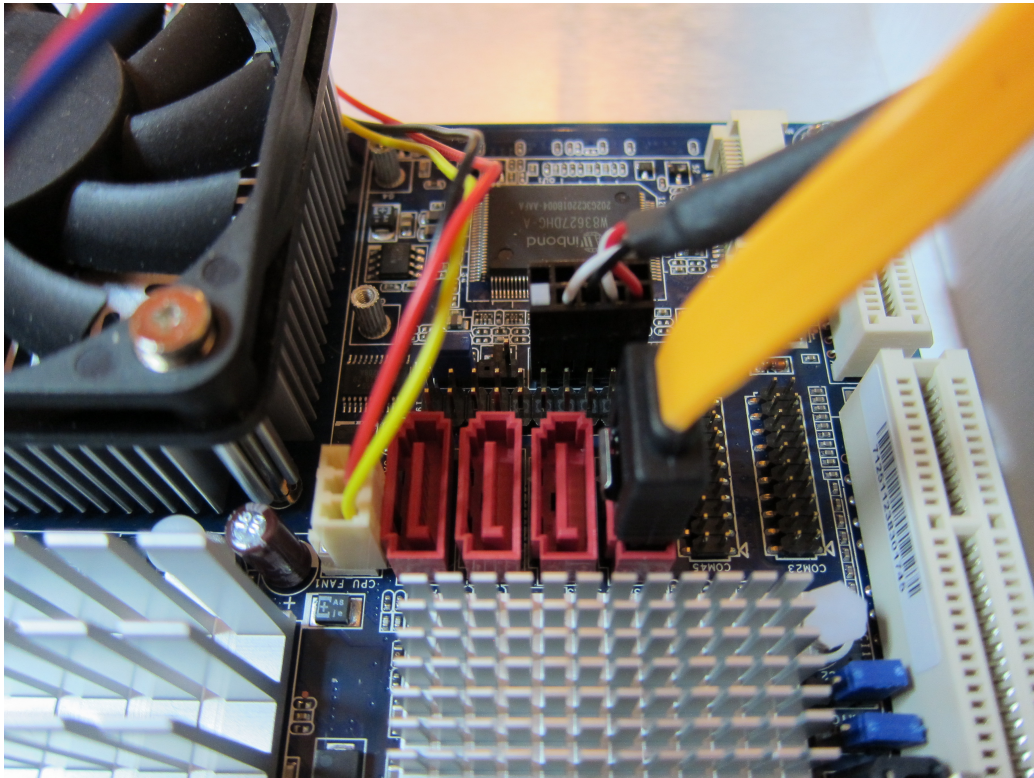

Figure 37: Power switch cable connected to F_PANEL1 and SATA cable connected to SATA4.
3. Connect the power switch cable to F_PANEL1 connector on the motherboard as shown in Fig. 37.
4. Connect the supplied SATA cable to SATA4 connector on the motherboard, refer to Fig. 37.